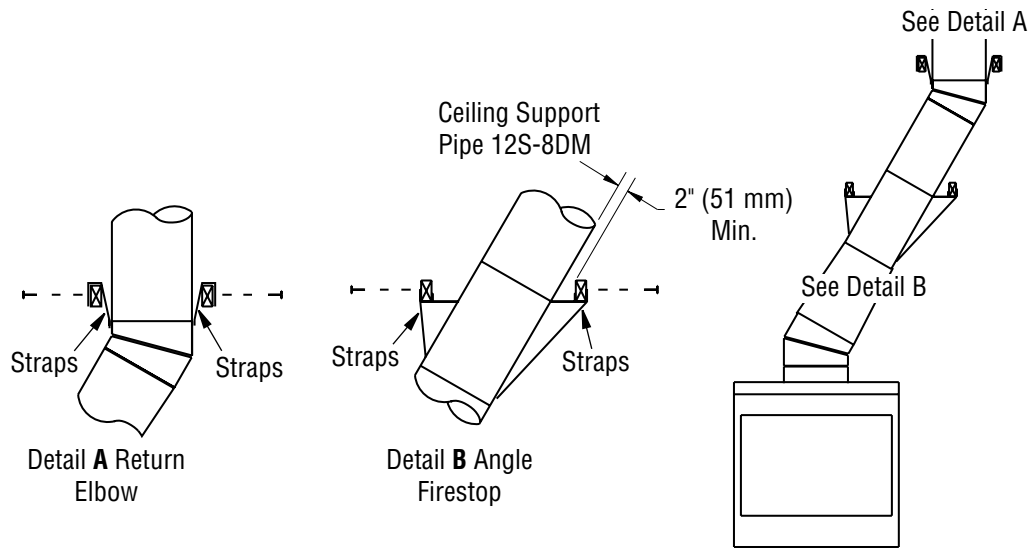

Figure 8 - Ceiling Support Pipe 12S-8DM
2. Chimney weight above offset rests on return elbow. Straps must be securely nailed to rafters or joists (see Figure 8, details A and B, page 9).